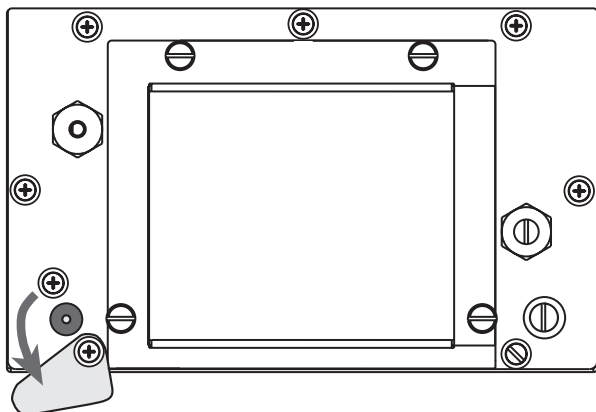

Figure 2. AC Adapter Port Cover
2. Loosen the bottom screw, then rotate the port cover to expose the AC adapter port (see Figure 2).